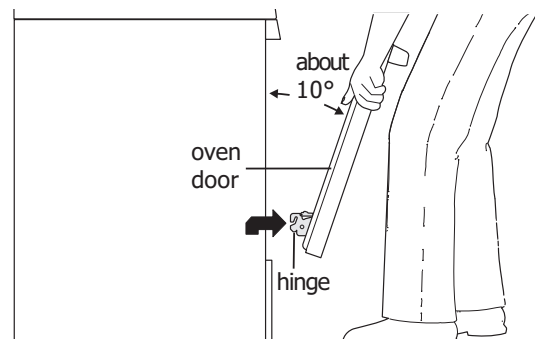
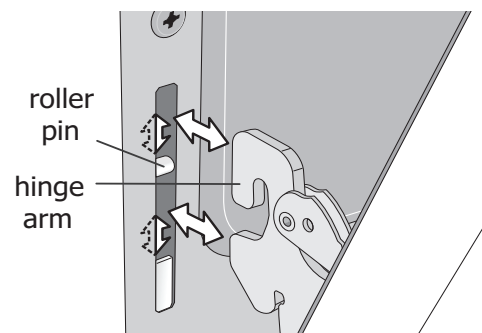

Figure 62: Holding door for removal
Figure 63: Location of hinge arm and roller pin
3. Firmly grasp both sides of oven door along the door sides. Do not use the oven door handle (See Figure 62).
5. Lift the oven door hinge arms over the roller pins located on each side of the oven frame (See Figure 62).
1. Firmly grasp both sides of oven door along the door sides. Do not use the oven door handle (See Figure 62).
2. Holding the oven door at the same angle as the removal position (See Figure 62), seat the hook of the hinge arm over the roller pins located on each side of the oven door frame (See Figure 63). The hook of the hinge arms must be fully seated onto the roller pins.